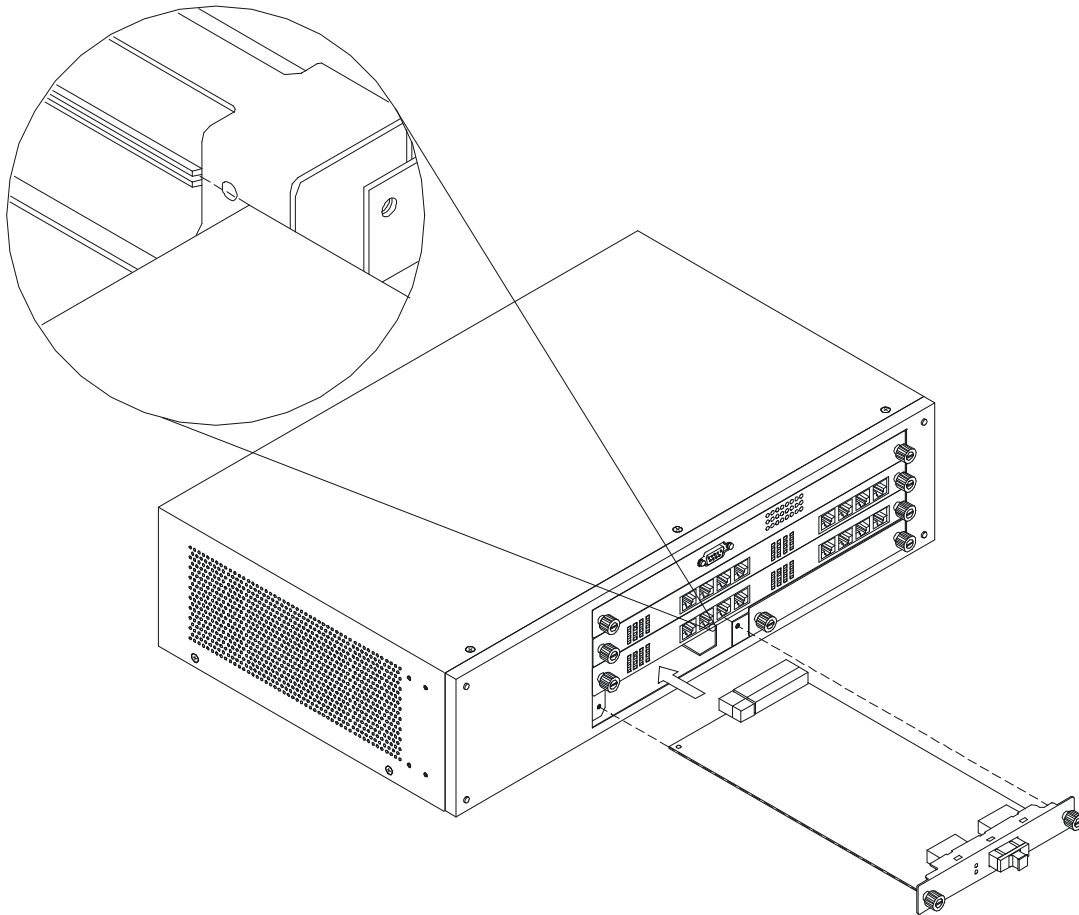

Figure 10: Insert Optional Module
You can purchase optional modules separately in order to meet the needs of your network. The two optional modules available for the DES-5016 are: a 2-Port 100BASE-FX (fiber optic) module and a 1-Port 1000BASE-SX (gigabit) module. As shown in Figure 10, optional modules can only be installed in Slot 3. Nothing can be installed in slot 4. The procedure for installing optional modules is the same for all three models.
3. Install the new module by inserting it into the guides, see Figure 10, and sliding it in until it stops. Press in firmly until you feel the module snap into place. The optional module should be level and flush with the rest of the DES-5016. Never force, twist or bend the optional module. The optional module slides in smoothly.